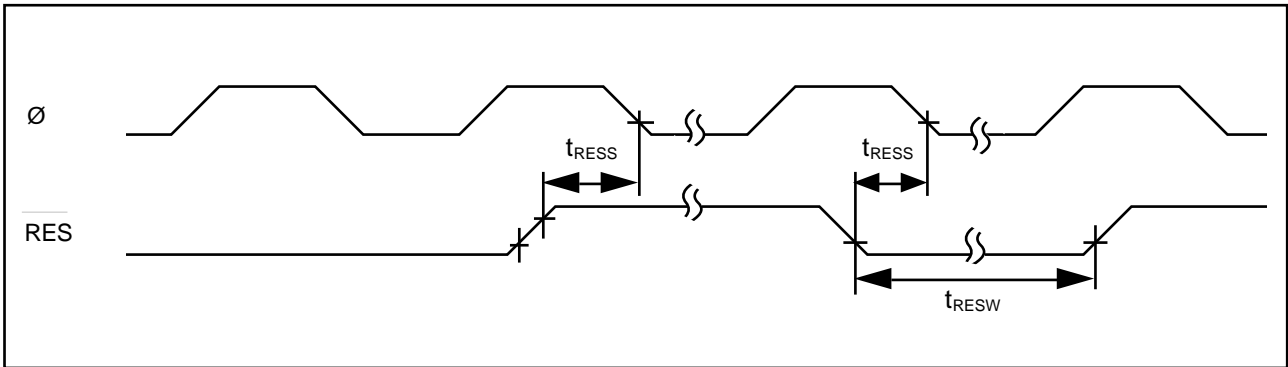

Figure 14-6. Reset Input Timing
- 14.3.2 Control Signal Timing Figures 14-6 to 14-9